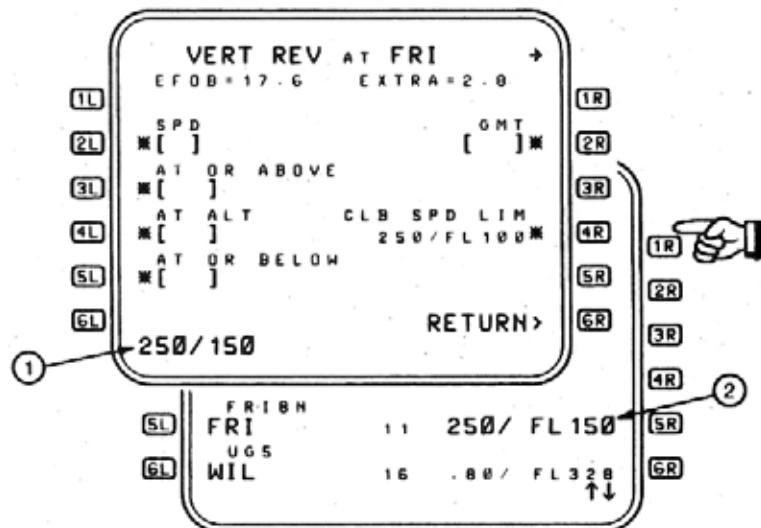

Figure 2-32
Another method would be a vertical revision at a downpath waypoint, FRI for example. Pressing LSK 5R , (see Figure 2-31), causes display of the VERT REV at FRI page, (see Figure 2-32). The CLB SPD LIM data field, adjacent to 4R, may be modified by writing the desired values in the SP (1), and pressing LSK 4R. This action changes the SPD LIM at FRI to 250/15000 (2) , and displays the new constraint in large font to indicate it has been modified by the pilot. (See Section 2.1.3.5.2.2, SPEED LIMIT, for more on the subject.)
Examples of both methods may be seen in Figure 2-31 (direct into F-PLN), and Figure 2-32 (via VERT REV page A).